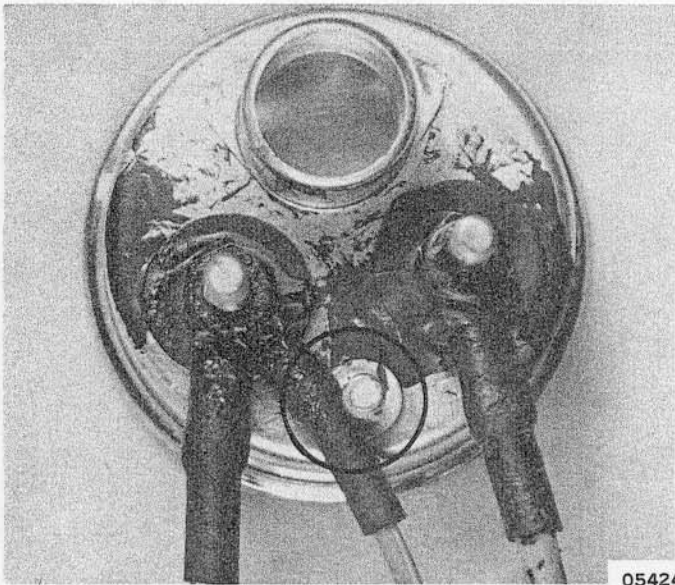

Figure 2. Red/White Wire Shorted to Ground Stud
3. If connections are as shown in Figure 2 or 3, loosen terminal nut and pivot terminal away from ground stud to provide clearance as shown in Figure 5.